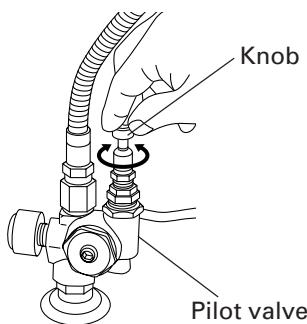

Fig. 5
- (1) Read safety warnings before performing operation.
- (2) Ensure the Motor/Pressure switch is in the "OFF" position.
- (3) Plug the power cord into a grounded outlet.
- (4) Move the Motor/Pressure switch to the "AUTO" position.
**Dual control:** Locate the adjustment knob at the top of the pilot valve. (Fig. 5)